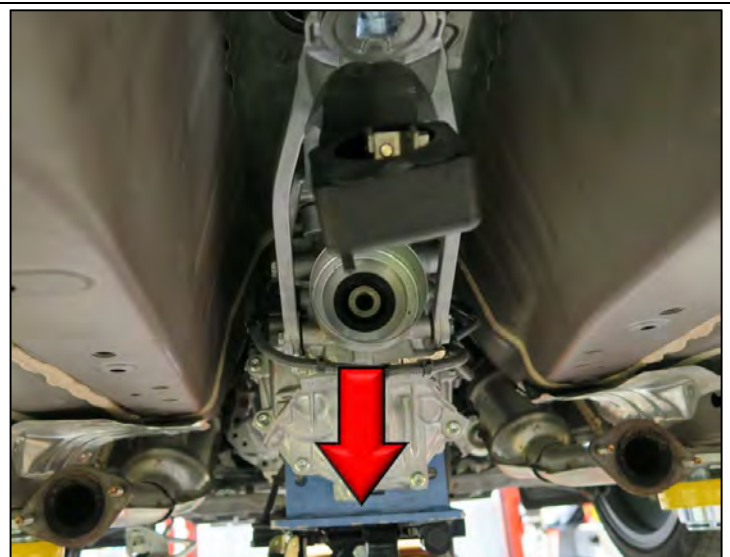

Figure 56
57. Lower the transmission down 4-6 inches to allow access to the remaining harness connectors, retainers and the bell housing bolts. (Figure 56)